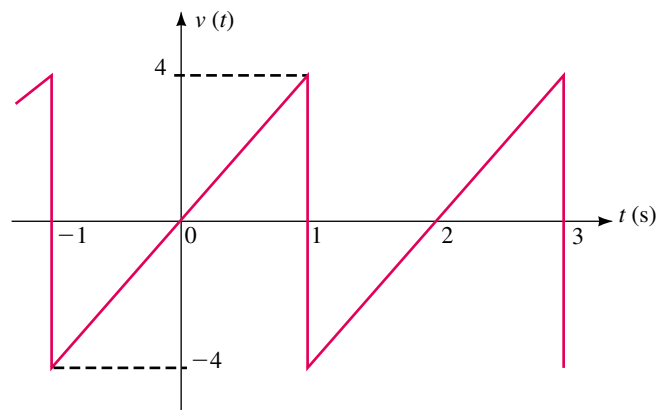

FIGURE 25–51
6. Repeat Problem 5 for the waveform shown in Figure 25–51.